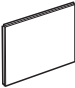

Figure 1
Fig. 1 illustrates baths fitted with rigid panels. Baths with wooden panel option - see Installation Instructions supplied.
2. Place bath in position and set to correct height, see Figure 1. Fix bath to wall. Fix bath to floor ensuring that all nuts are tight.
Trial fit panel(s) to verify height is correct. Note: Untrimmed panel fitment requires the maximum height adjustment (C max Fig1). Remember to allow for floor covering thickness and uneven floors.
6. Panels can be reduced in height by cutting a strip from the bottom edge, for heights see Fig. 1. Timber floor battens are not supplied but are necessary to secure the panels. Screw battens to the floor.